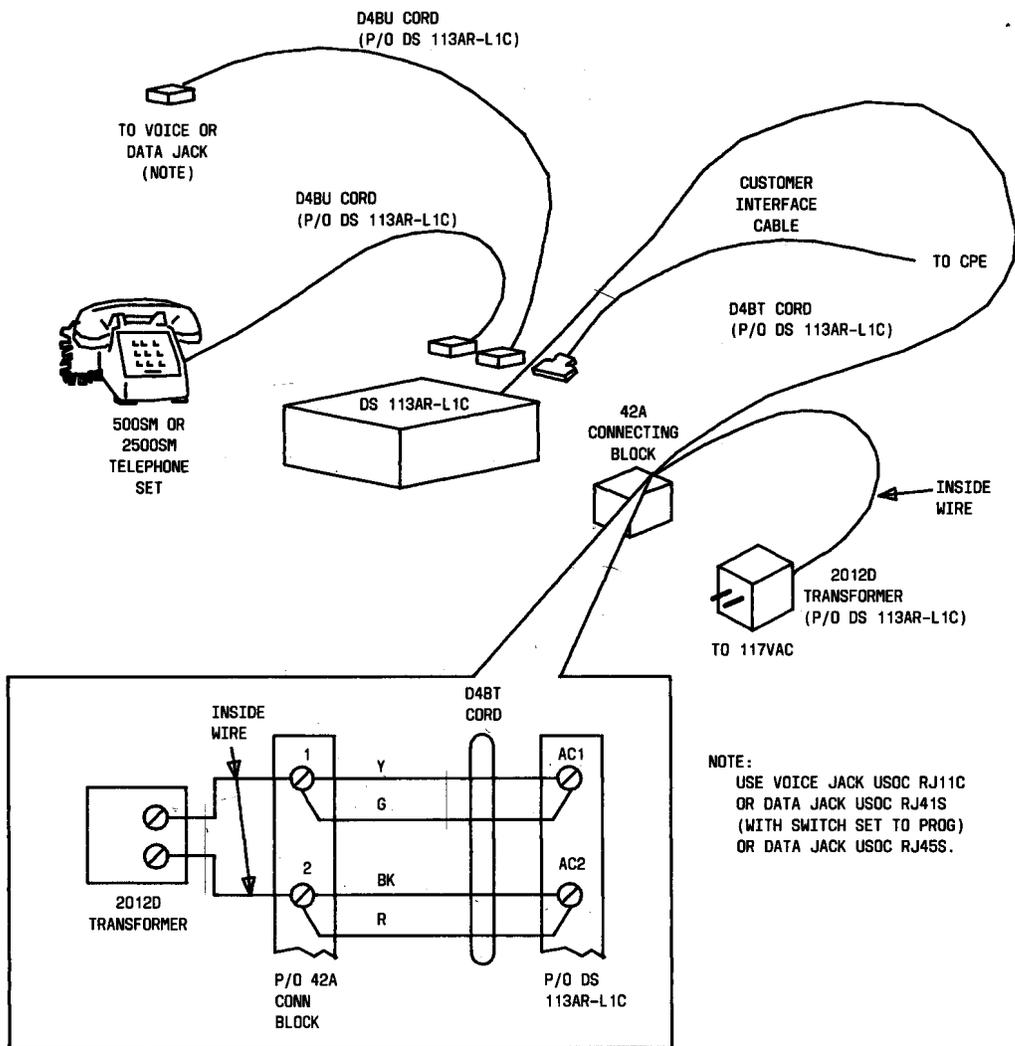

Fig. 4—DS 113AR-L1C—Connection Diagram
- Grandfathered DS 113A may be connected in registered arrangements provided the interface with the network is made with the appropriate jack and cord as shown in Fig. 4.
- Data set 113AR may be connected in grandfathered arrangements provided the interface with the network is made with the appropriate cords as shown in Fig. 4.
- Connections to the telephone lines must be made with the proper cords to the voice or data jack as shown in Fig. 4.
4.02 The station arrangement shown in the connection diagram (Fig. 4) complies with the FCC Registration Program and applies only to DS 113AR-L1C. The following parts are required for this arrangement.
- D4BU Cord (2)—supplied with DS